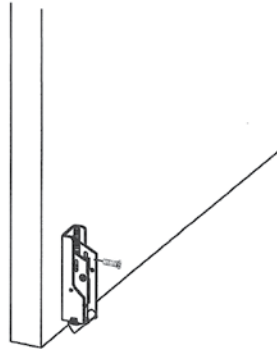

Figure 3
1. Mount bottom latch assembly into mounting bracket . (See Figure 3.)